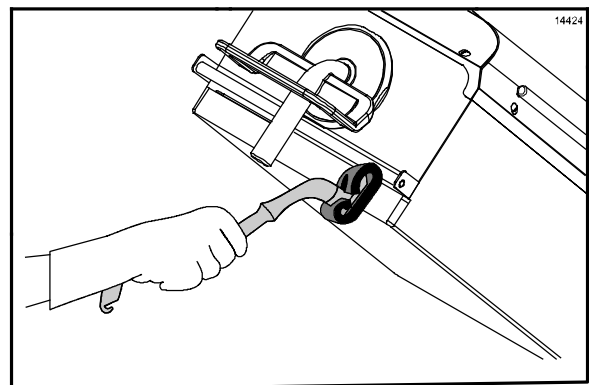

Figure 49
16. Apply **McD Hi-Temp Grill Cleaner (HTGC)** to the front side of the platens, starting from the right platen to the left platen. (See Figure 49.)